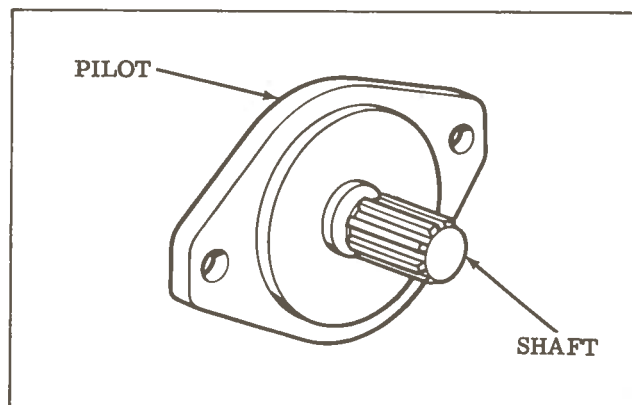

Figure 5
1. Direct Drive - A pilot on the mounting flange (figure 5) assures correct mounting and shaft alignment, provided the pilot is firmly seated in the accessory pad. Care should be exercised in tightening all flange mounting screws to prevent misalignment. This mounting is a standard SAE 2-bolt type. If gaskets are used between flanges, they should be installed carefully so as to lie flat. Shaft keys and couplings must be properly seated to avoid slipping and possible shearings. Proper coupling alignment is essential to long life.